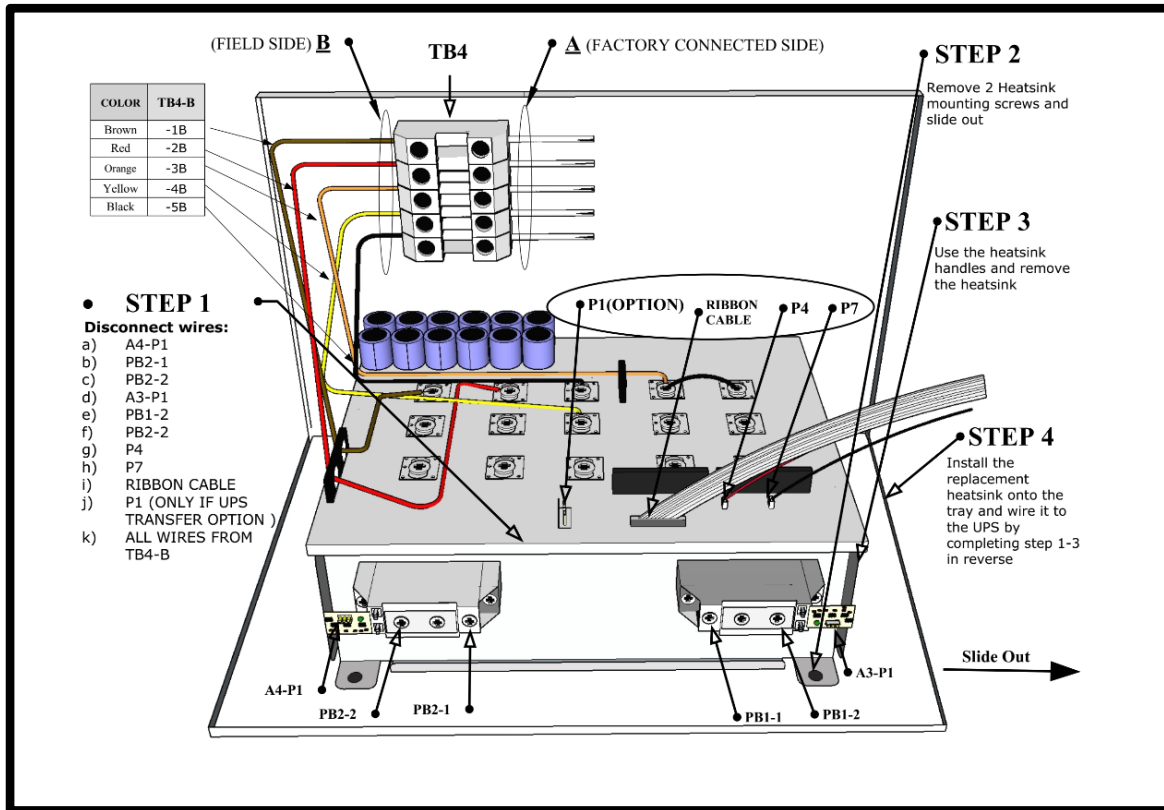
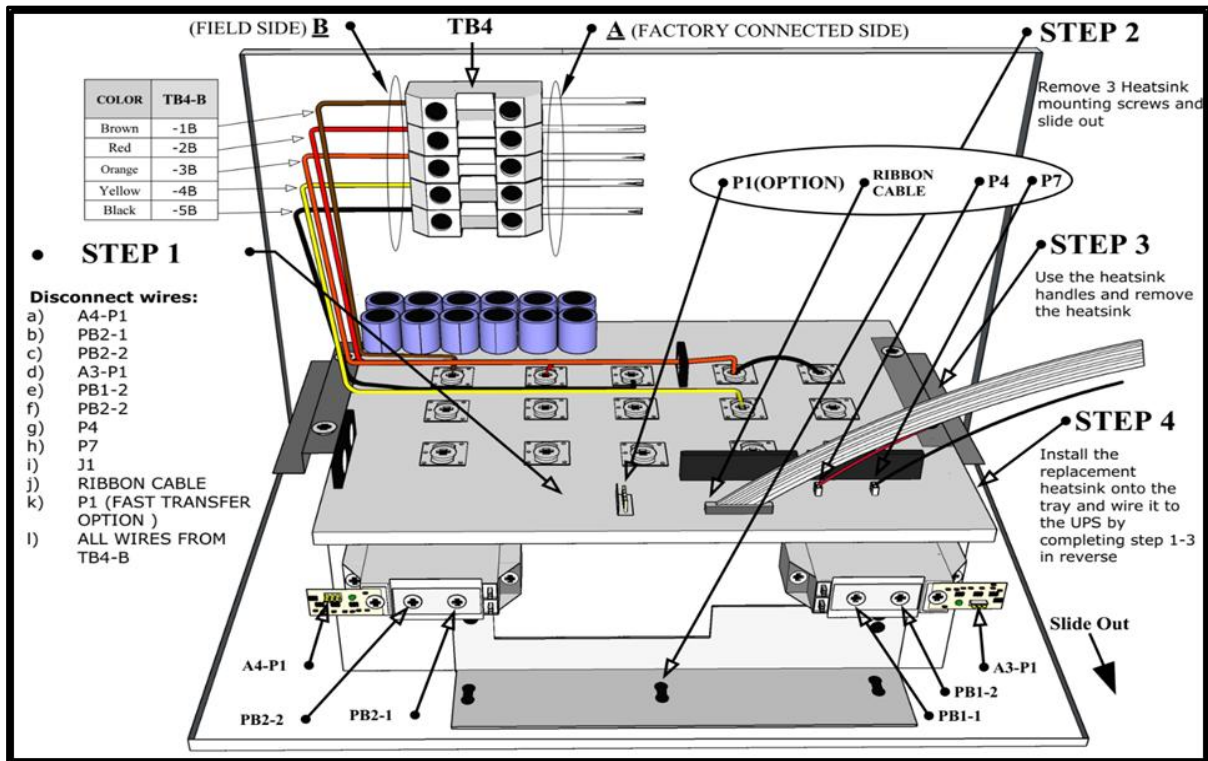

Figure 6-1. Heatsink Assembly (units up to 5kw)
Figure 6-2. Heatsink Assembly (all others)
3. Install the replacement heatsink onto the tray and wire it to the unit by completing step 1-3 in reverse (see Figure 6-1 and Figure 6-2).